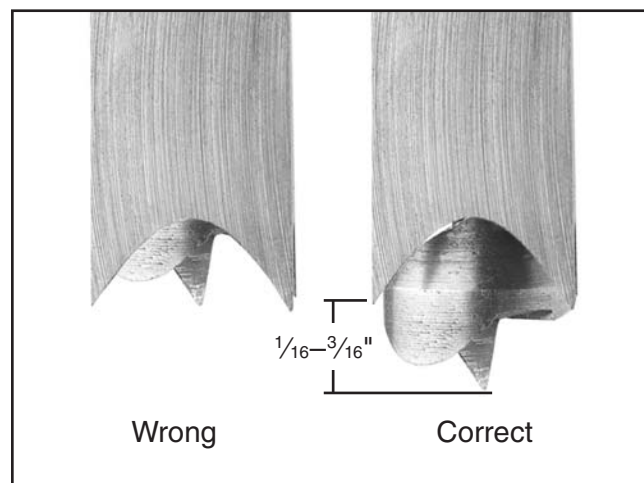

Figure 20. Drill bit extension.
7. Using the chuck key, tighten the drill bit into the drill chuck so the tip extends $\frac{1}{16}$ "– $\frac{3}{16}$ " beyond the chisel, as shown in **Figure 20**. The correct distance depends on the wood type and operation.